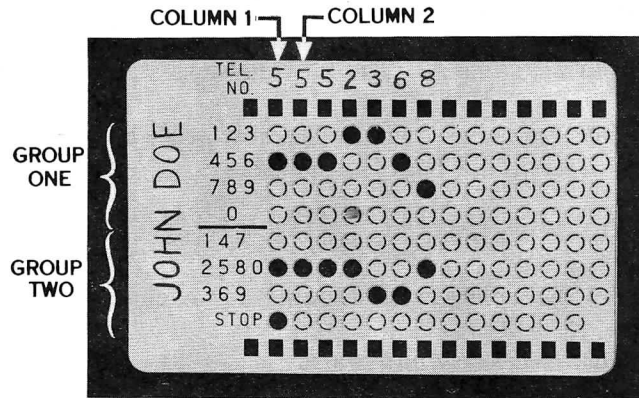

Fig. 7 - Card Coded for 7-Digit Telephone Number
5.01 It is important to properly punch and check cards for accuracy to ensure satisfactory results. (See Fig. 7 and 8.)
- (1) Write name and telephone number in spaces provided as shown in Fig. 7 and 8.
- (2) Convert exchange letters to numbers. For example: use 2 for A, B, or C and 7 for P, R, or S.
*Note:* There are two groups of numbers 1 through 0 on the card. (See Fig. 7.)
- (3) In Fig. 7 the first digit of the telephone number is 5. In column 1, locate digit 5 in the first group of numbers and punch out the perforation with a pencil or ball-point pen. In the same column, locate digit 5 in the second group of numbers and again punch out the perforation.
- (4) Repeat this procedure for each digit in the telephone number. The digit 0 must be punched out in each group of numbers just as any other digit.